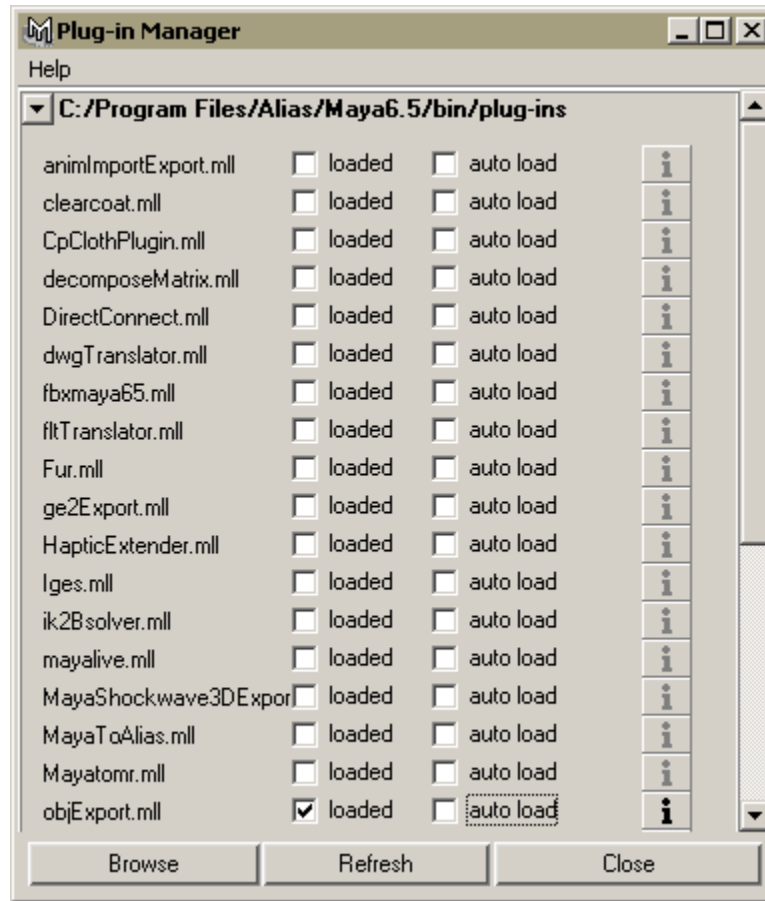

FIGURE 2-7. Maya Plug-in Manager with obj exporter selected.
- 1 Go to Window > Settings/Preferences > Plug-in Manager (Figure 2-7).